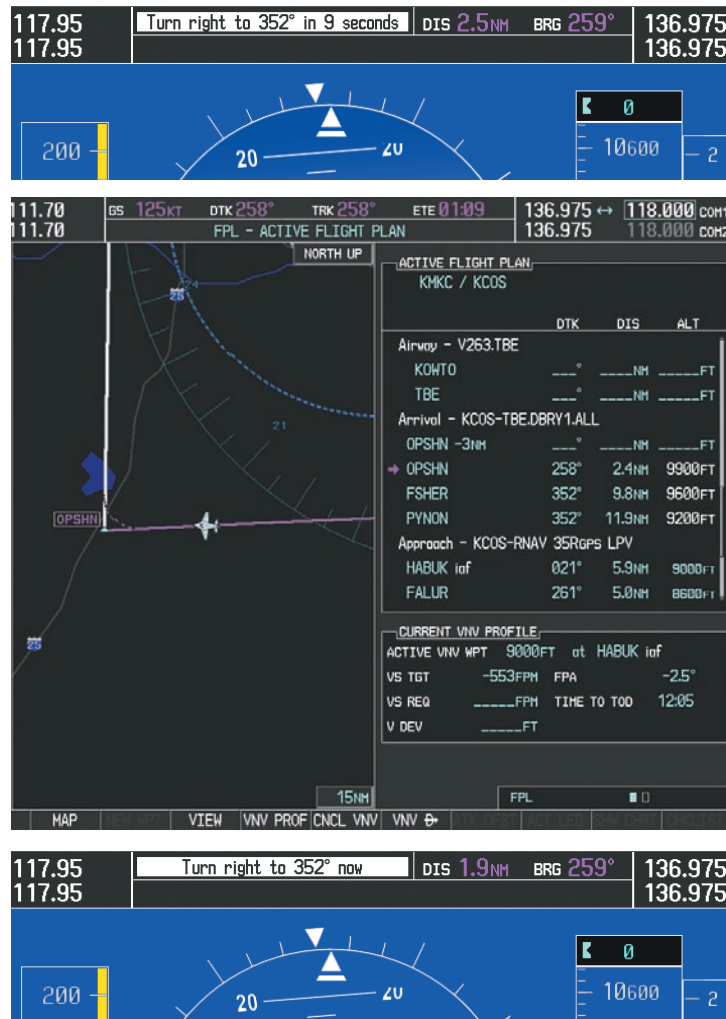

Figure 5-133 Turn to intercept OPSHN to FSHER Leg
- 18) The aircraft is approaching OPSHN. The upcoming turn and next heading are annunciated at the top left of the PFD as seen in Figure 5-133. Initiate the turn and maneuver the aircraft on a track through the turn radius to intercept the magenta line for the OPSHN to FSHER leg and center the CDI.